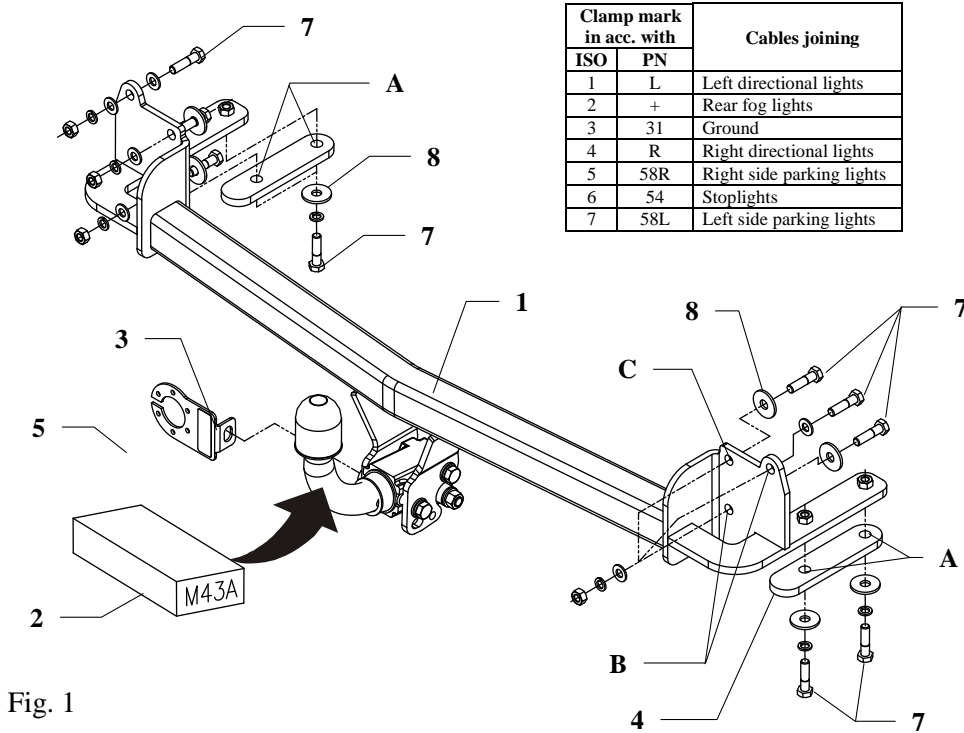

Fig. 1
4. Put main bar of towbar pos. **1** into chassis and screw loosely according to fig. 1 through hole pos. **A** using bolts M10x40mm (pos. **6**).